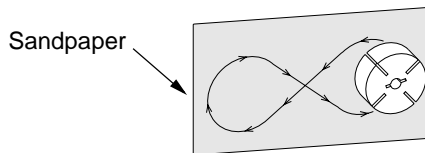

Figure 22 - Sanding Rotor
15. Place fine grade sandpaper (600 grit) on flat surface. Sand rotor lightly in “figure 8” motion four times (see Figure 22).